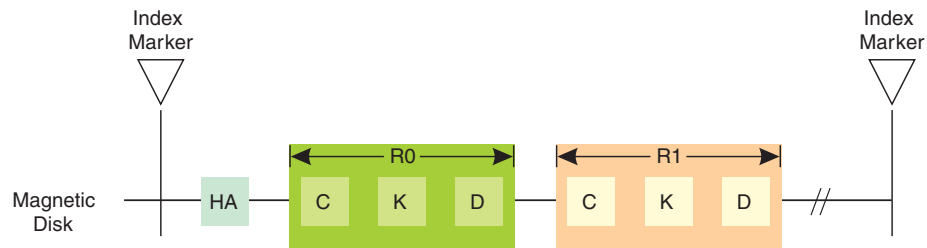

Figure 2-14 Track Format for 3390 and 3380 DASD
Figure 2-14 shows the CKD track format emulated for 3390 and 3380 DASD.
All tracks are written with formatted records. The start and end of each track are defined by the index marker. Each track has the same basic format as that shown in Figure 2-14. That is, it has an index marker, home address (HA), record zero (R0), and one or more data records (R1 through Rn). These track formats are discussed in the following sections.
Index Mark — An index marker indicates the physical beginning and end of each track for each disk device (Figure 2-14).